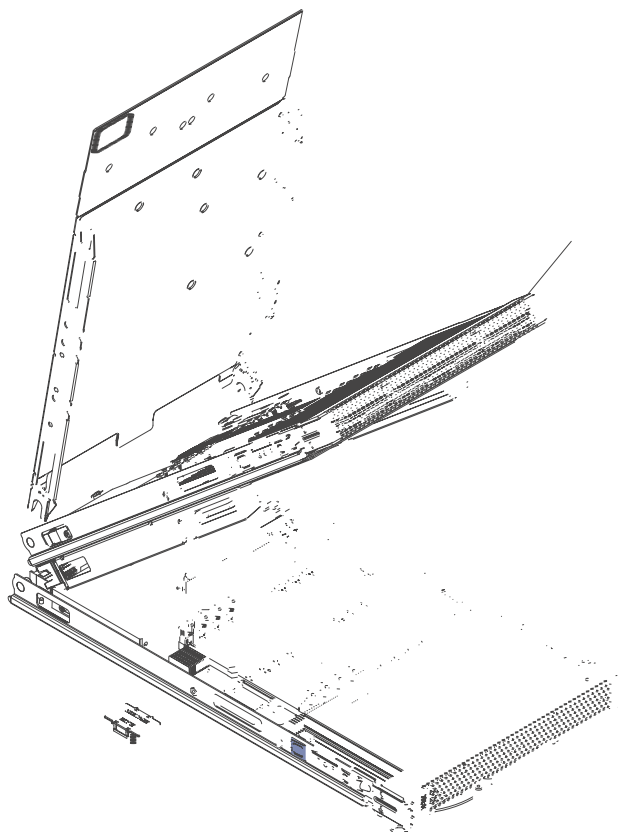

Figure 10. Removing the expansion unit
7. Pivot the expansion unit (**1** in Figure 10 on page 29) up on the cover pins of the base unit (**2**).
10. If you are not installing another expansion unit, replace the expansion connector cover (**3** in Figure 10).